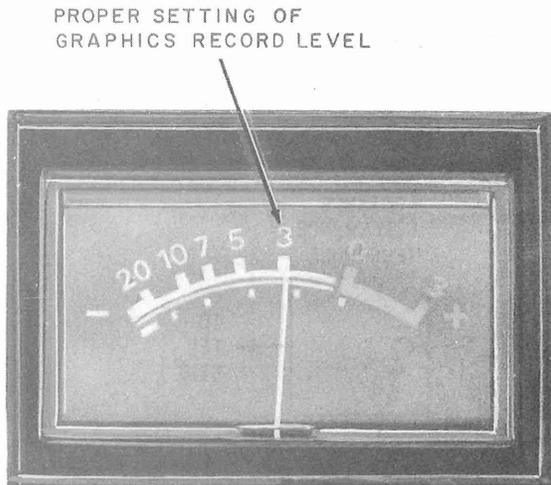

Fig. 59—Right Stereo Recorder Level Meter
7.08 Adjust tape recorder controls as described in the tape recorder manual for recording from a telephone line input signal. If the recorder has recording level meters, depress and hold TEST switch on the transmitter-receiver and adjust recording level on the tape recorder until meter indication is below zero or below the red line (Fig. 59). If recording level is set too high, crosstalk to the adjacent voice channel may occur. If recording level is set too low, errors may appear in the display. **A recording level of approximately -3 VU (volume units) is recommended.**